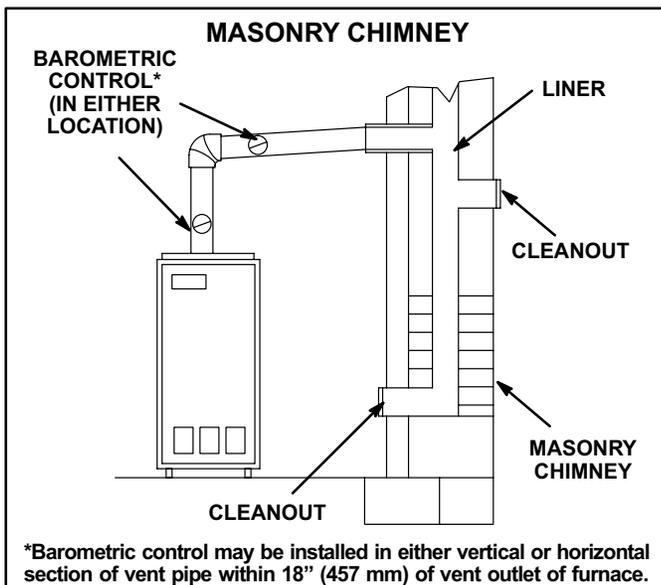

FIGURE 8
- 9- The vent pipe should slope upward toward the chimney on horizontal run at least 1/4 inch (6 mm) to the foot (0.3 m) and should be supported by something other than the furnace, such as isolation hangers. See figure 8.